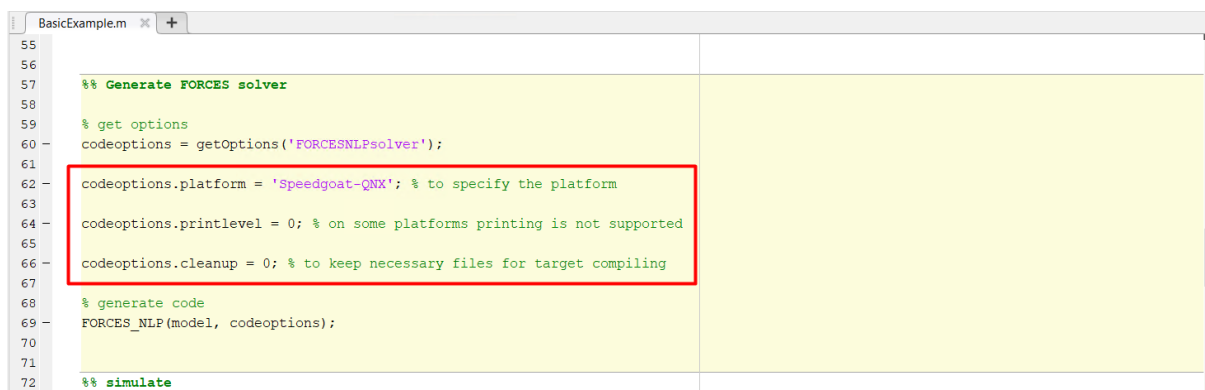

Figure 13.87: Set the appropriate code generation options.
1. (Figure 13.87) Set the code generation options: